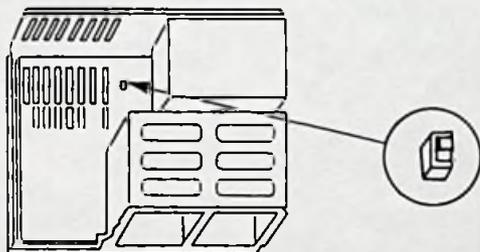

Figure 9B. SW1 in the IBM AT
- b. In the IBM AT, you will need to set SW1 for monochrome display. SW1 is a two-position slide switch on the floor of your system behind the left drive bank. Move the switch toward the back of the chassis for monochrome display. See Figure 9B.